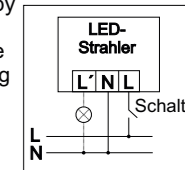

Fig. 12
3.6 Manual mode (two versions) (fig. 12)